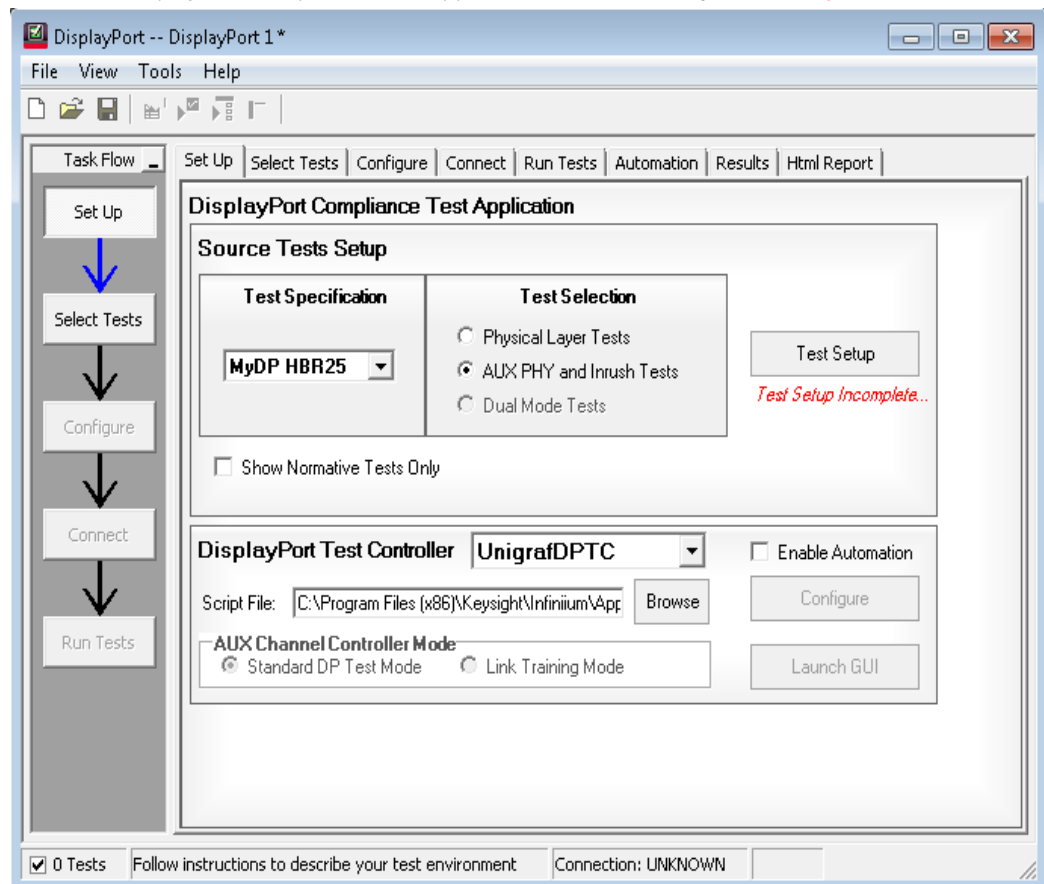

Figure 182 Set Up tab on the DisplayPort Compliance Test App
- 3 On the DisplayPort Compliance Test Application, click the **Set Up** tab (see Figure 182).